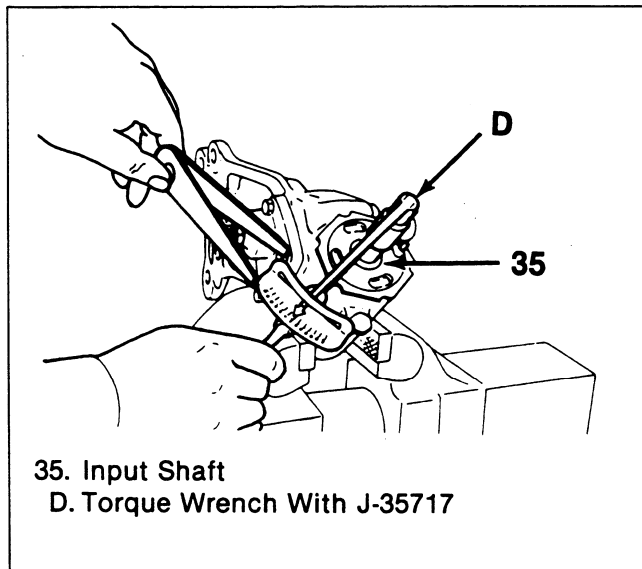

Figure 17. Setting Preload on Ball Nut Assembly
- Place torque wrench (D) and socket J-35717 on the input shaft (35) (figure 17).
- Recheck the total starting torque of the input shaft (figure 17). When the unit is fully assembled, the specification is 0.7 N·m (0.5 lb·in).